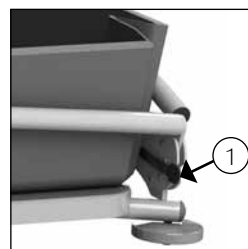

Figure 4 Locking side-bar.
- The side-bar is equipped with safeguards so that the client cannot raise the side-bars themselves (See figure 4).
- Unlock the safeguard by using one hand to pull the protruding lip inwards and raising the side-bar with your other hand (1) (See figure 4).